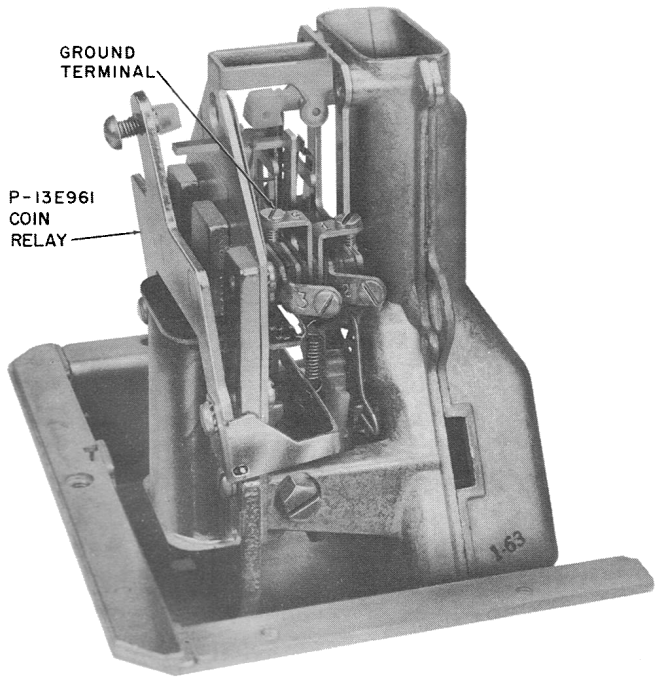

Fig. 30 — Manual or Dial Prepay, Single-Coil Slow-Release Coin Relay
- Manual or dial prepay, single-coil coin relay (Fig. 30).
- (e) Late production 230-, 233-, 234-, 235-, and 236-type coin collectors are equipped with a new P-13E961 coin relay (Fig. 30). It replaces the P-110E786 coin relay now rated Manufacture Discontinued (MD). The relays are interchangeable, but some of the components are not.